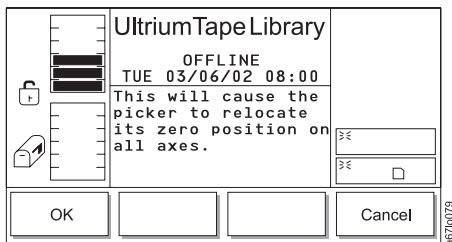

Figure 4-170. Home Dialog
5. Press the button below the **Home** softkey. The Home Dialog displays (see Figure 4-170) with a message stating that the picker will relocate to its zero position on all axes.